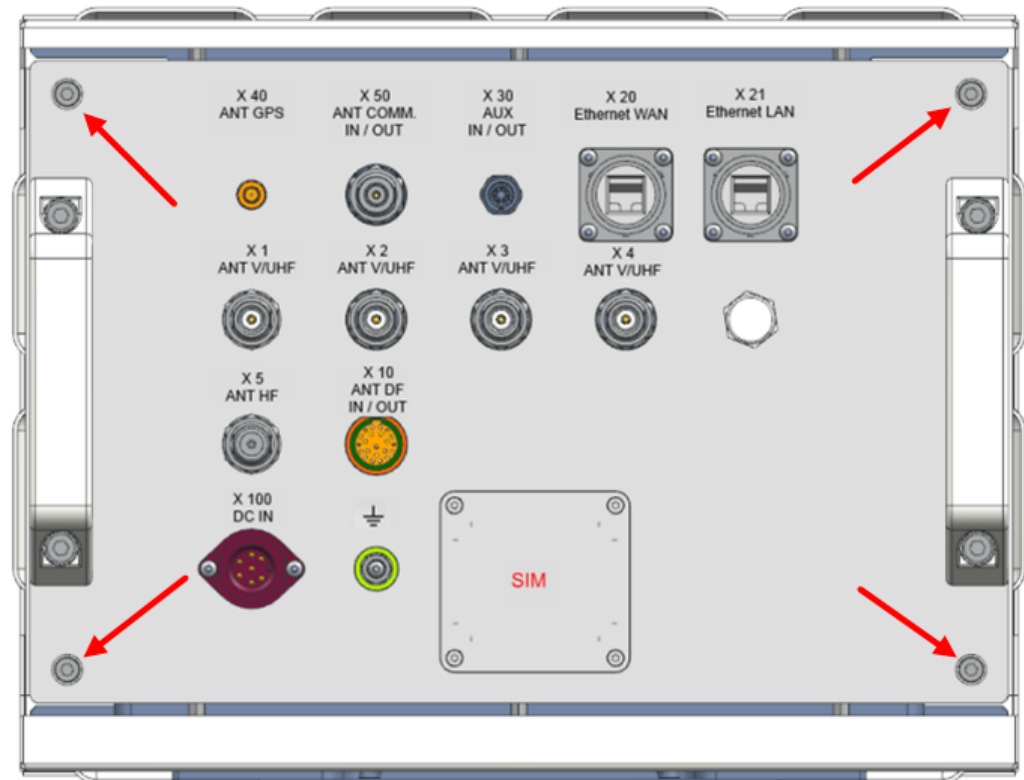

Fig. 4-23: Screws to be undone before opening the device
2. Undo the four screws at the bottom of the device (see figure 4-23).